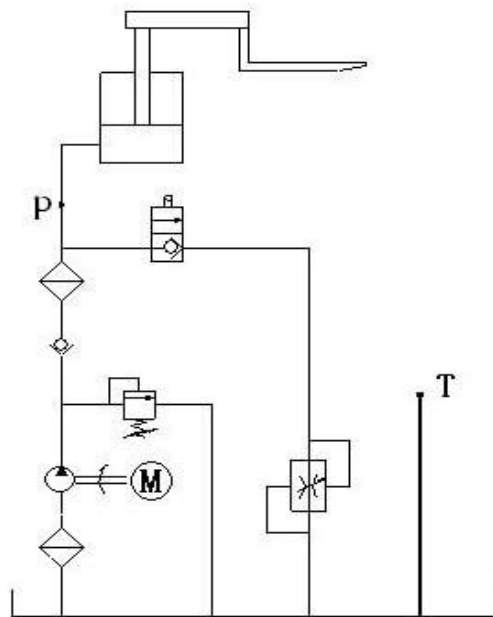

Figure 8 – Hydraulic Flow Diagram
- Remove the two screws securing the cover. See Figure 8.